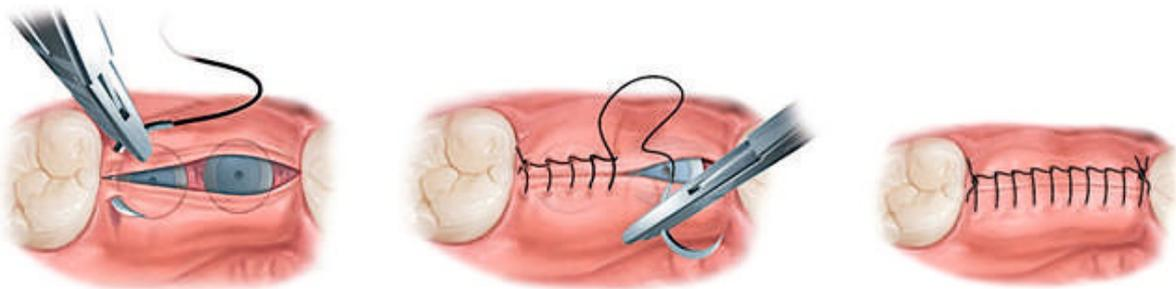

Figure 8 – Continuous Suture Technique (4)
If there is a long incision, continuous suture technique is preferred. In this technique, instead of applying a knot every time, long incision line can be sutured in a short time. This could have knotted style or simple technique (Figure 8). The disadvantage of the continuous suture is when there is a rupture, suture below can loosen (4).